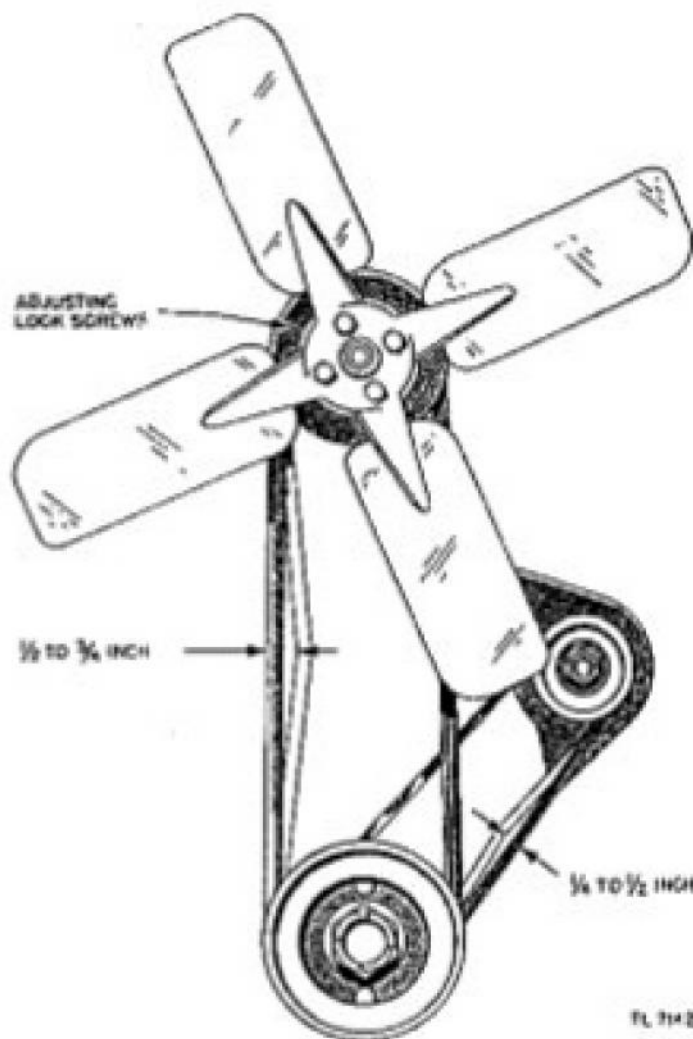

Figure 25. Correct V-belt tension.
(1) Drain the cooling system by opening the drain cocks in the lower radiator connection, in the manifold, and in the cylinder block (drain cocks located in the cylinder block beneath the carburetor). Allow the system to drain, then close the cocks.
(2) Fill the cooling system with a solution of 2 1/2 pounds of ordinary washing soda mixed with 9 gallons (U. S. measure) of water (cooling system capacity).
(3) Leave the radiator filler cap off and run the engine until the water is hot; then drain and flush the system with clean water.
(4) Refill with clean water.
c. FAN BELT ADJUSTMENT. Adjust the tension of the fan belt by changing the width of the groove in the fan pulley. (See fig. 25.) To do this, loosen the lock screws and move the pulley flanges together